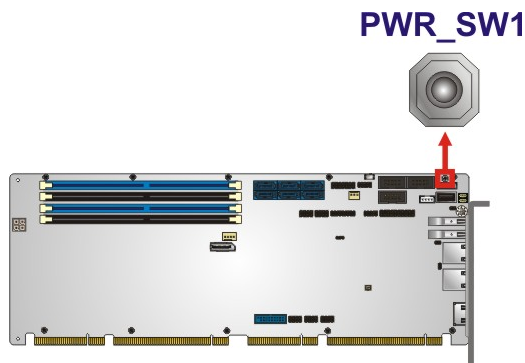

Figure 3-17: Power Button Location
- CN Location:** See **Figure 3-17**